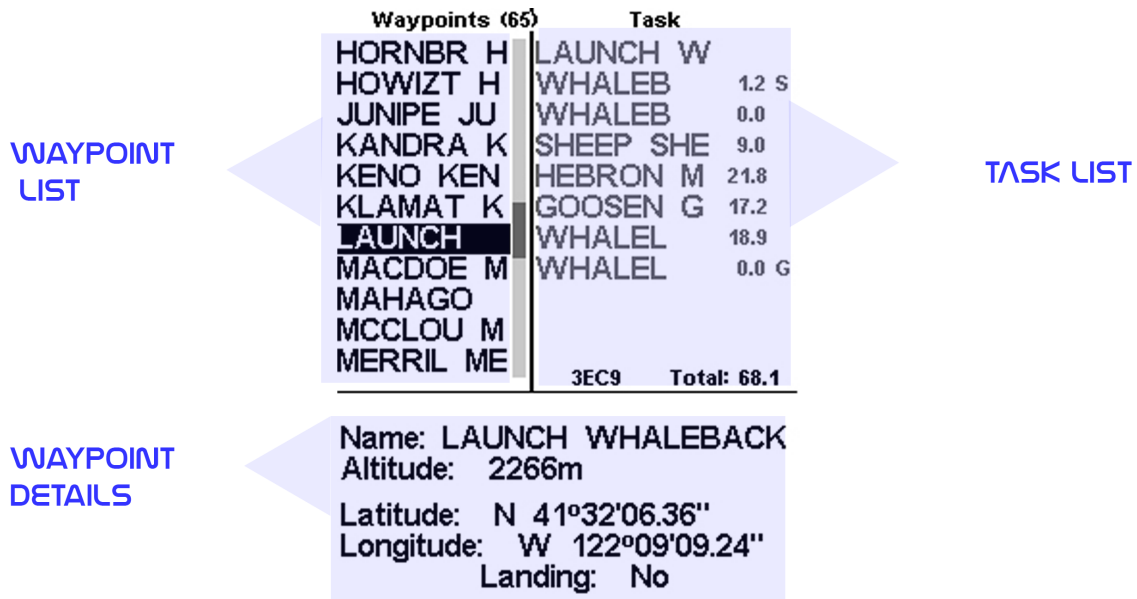

Figure 4.2: Waypoints and RouteScreen
The Waypoints/Route page allows the user to manage waypoints, and define a route/task. As shown in Figure 4.2, the page is divided into 3 areas, namely the waypoint list (WL); Routelist (TK) and selected waypoint details/options list (DO). The DO area can change according to which submenu you are in. Specifically, it can show the selected waypoint data, or a list with possible actions for the waypoints. Entering the page activates the WL area. At the top of the page next to the title Waypoints, is the total number of Waypoints stored in the GPS SD instrument¹. The first waypoint on the list appears highlighted, and the corresponding data of the selected waypoint is shown in the DO area. As the cursor is moved to a different waypoint so the data changes matching the newly selected waypoint. If the waypoints list is empty a list of available actions is shown in the DO area. Since no waypoint exists only the *Insert new Waypoint* action is available.